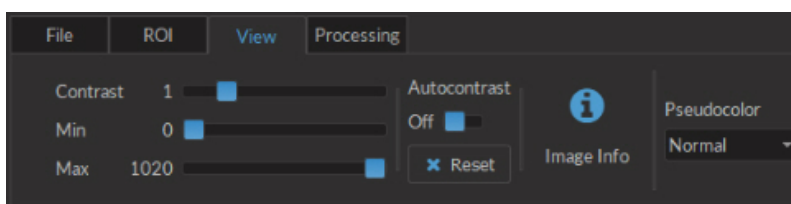

Figure 4.4: View Tab
3. The **View tab** (Fig. 4.4) is used to manipulate the appearance of an image without changing base data.